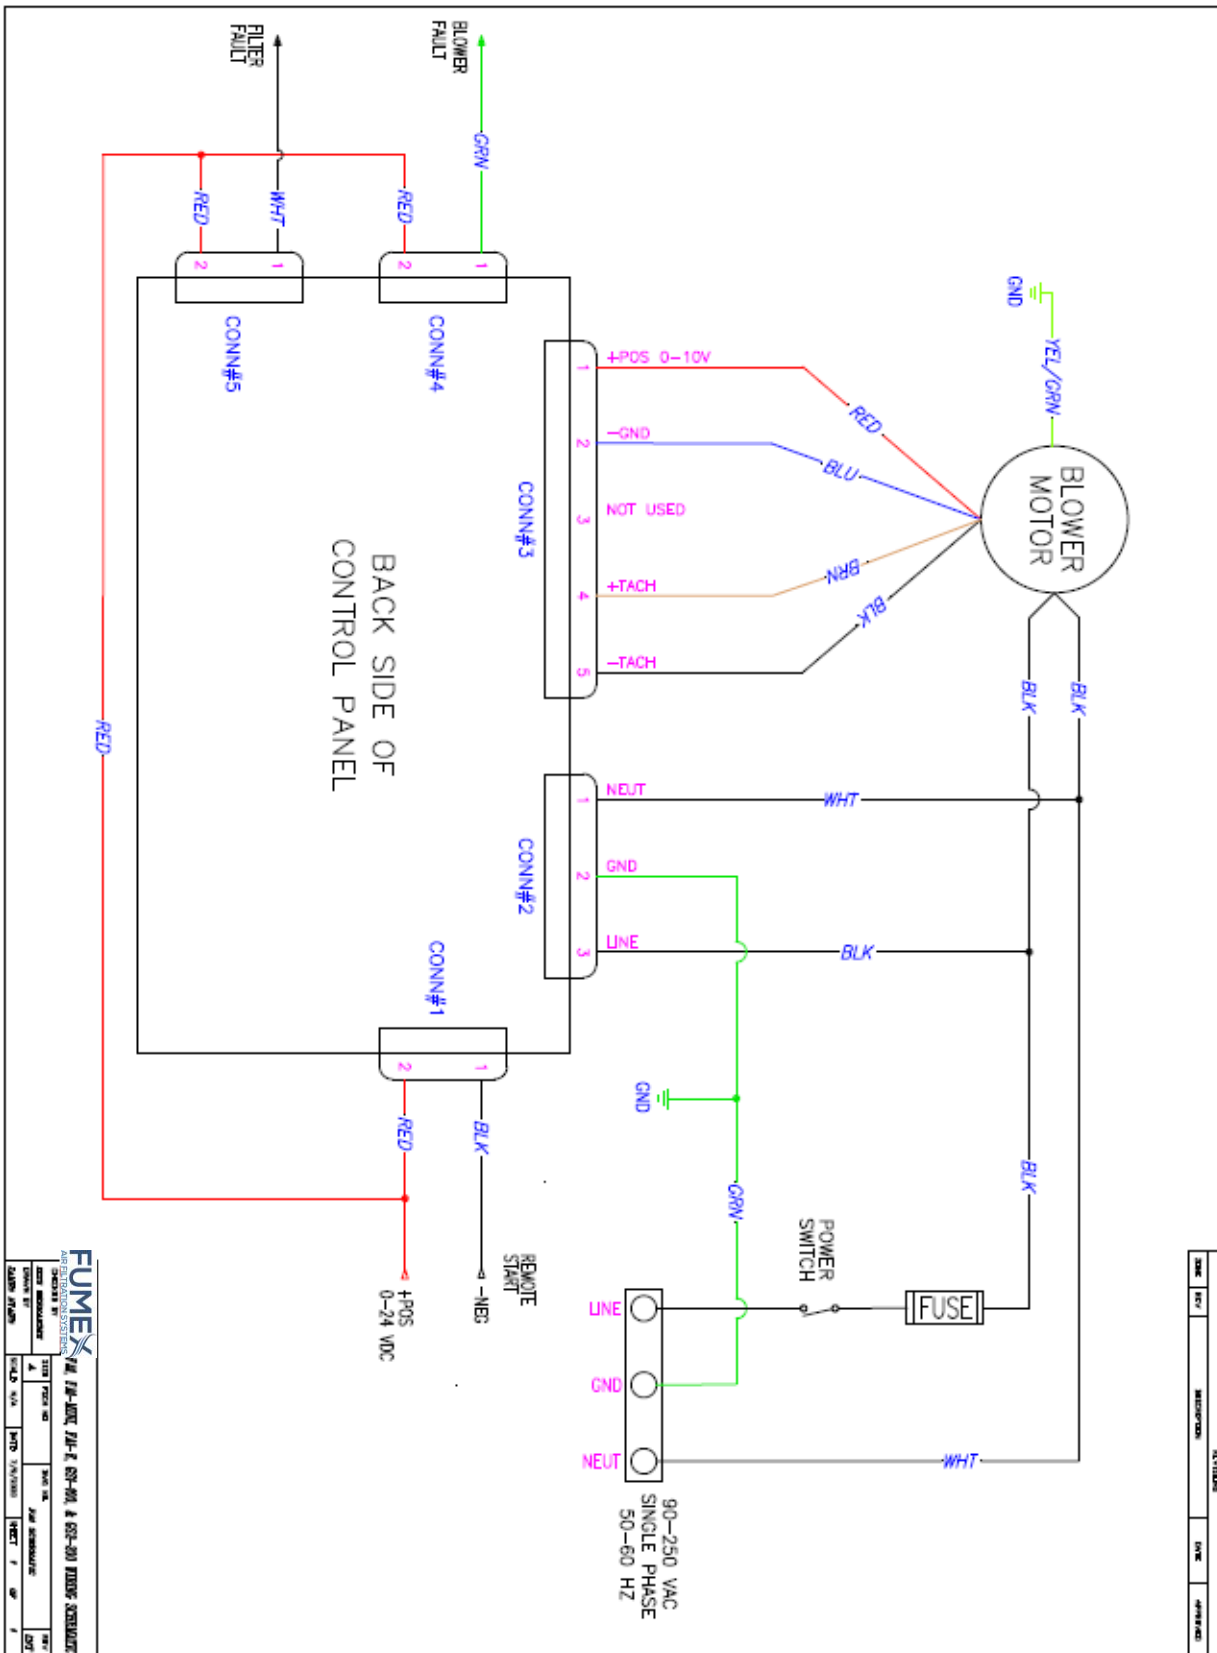

Figure 1
The FA1-E unit can be supplied with an optional interface package providing remote start/stop and filter monitoring capabilities (Part # FA228). Please see instructions below for Relay Activation/De-Activation procedures and refer to the drawing in Figure 1 for remote connections.
7. Remove the flash drive and apply 0-24 VDC to the start relay according to the wiring diagram in Figure 1 to start the unit.